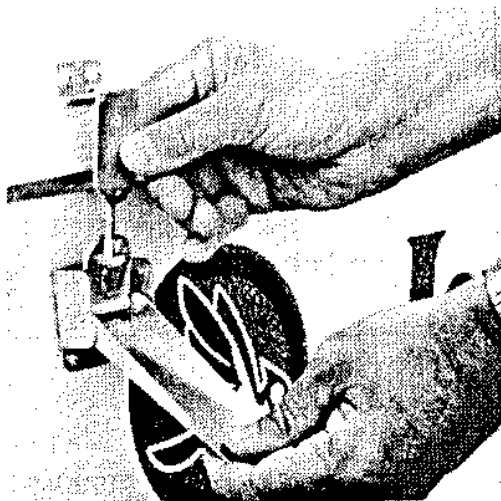

Fig. 1
1. Unfasten each corner latch. **CAUTION: NEVER TRY TO CRANK UP THE ROOF UNTIL ALL FOUR CORNER LATCHES ARE UNLOCKED AND FREE.** Fig. 1